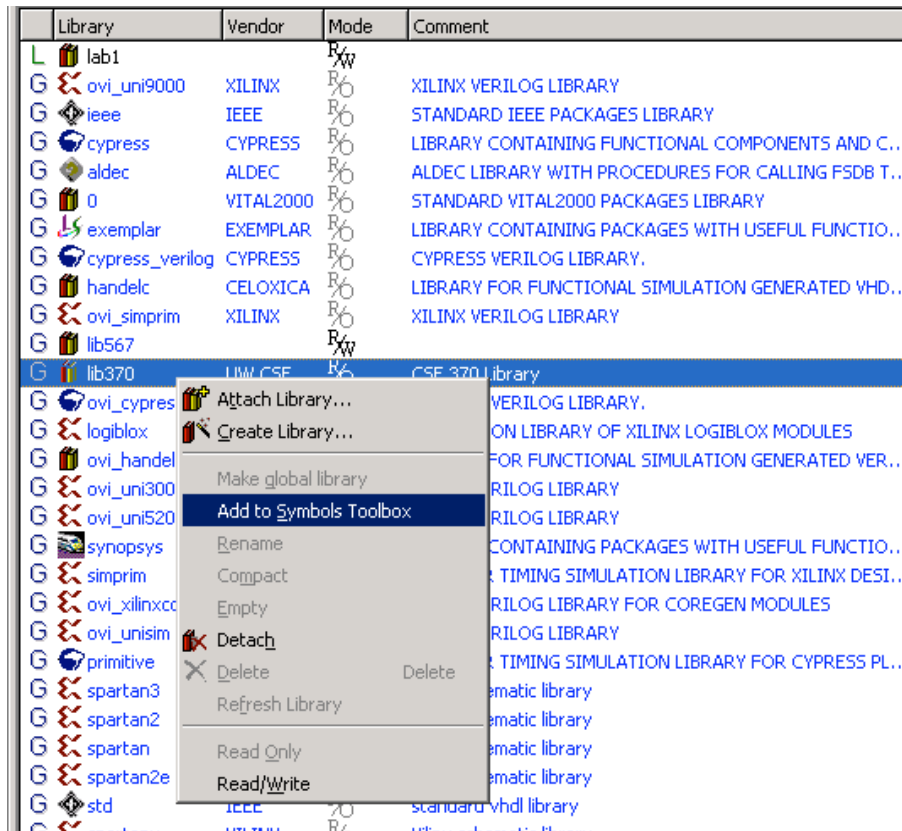

Figure 16
2. Locate the lib370 library in the left frame of the main window, and right click it (Figure 16).